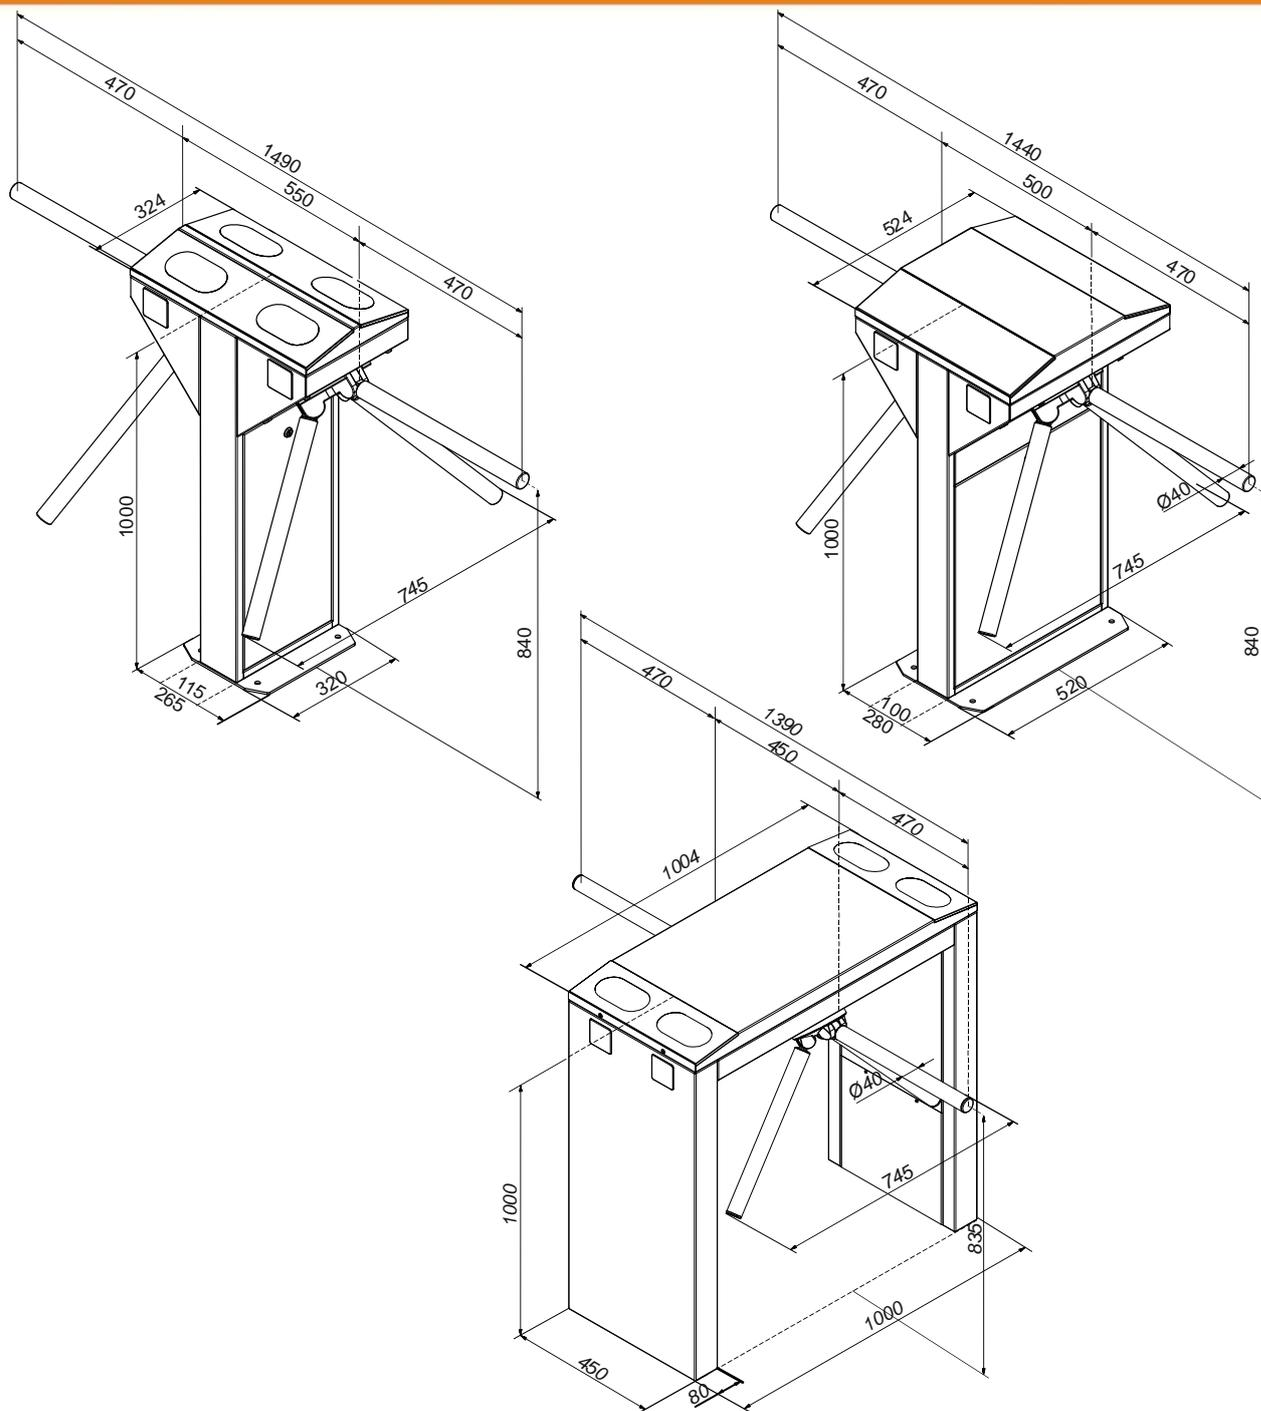

Fig..2 - Tripod turnstile dimensions
**1.3.3 The turnstile design, overall and installation dimensions (See Fig.2).**